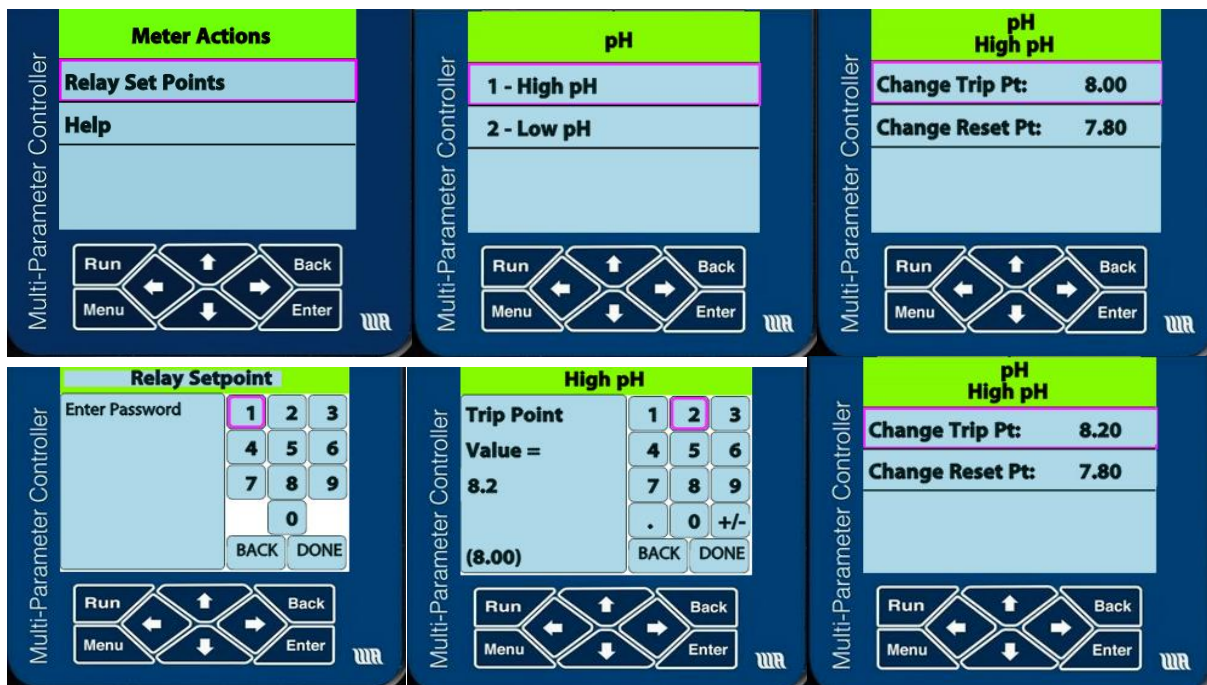

Figure 3-6 – The sequence of screens for changing relay set points from the front panel.
3. The next screen shows the relays that have been set. In Figure 3-6 they are “High pH” and “Low pH.” Select the relay you want to modify and click on **Enter**.